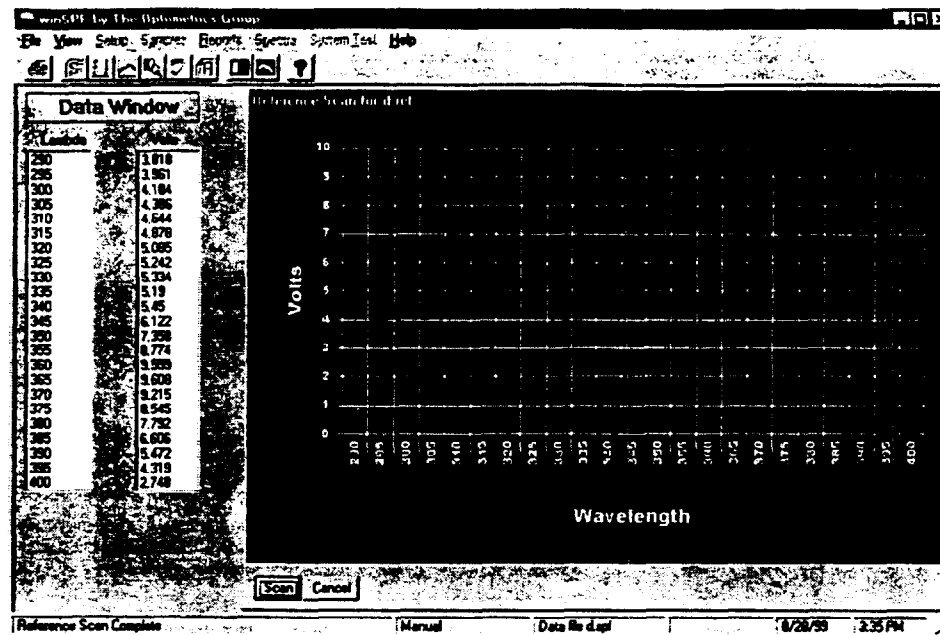

Figure 20 - The Reference Scan Screen
**Reference Scan** - In figure 20, the Reference Scan screen, the left side of the display shows the wavelengths at which data was taken under the heading **Lambda** and the response in **Volts**.